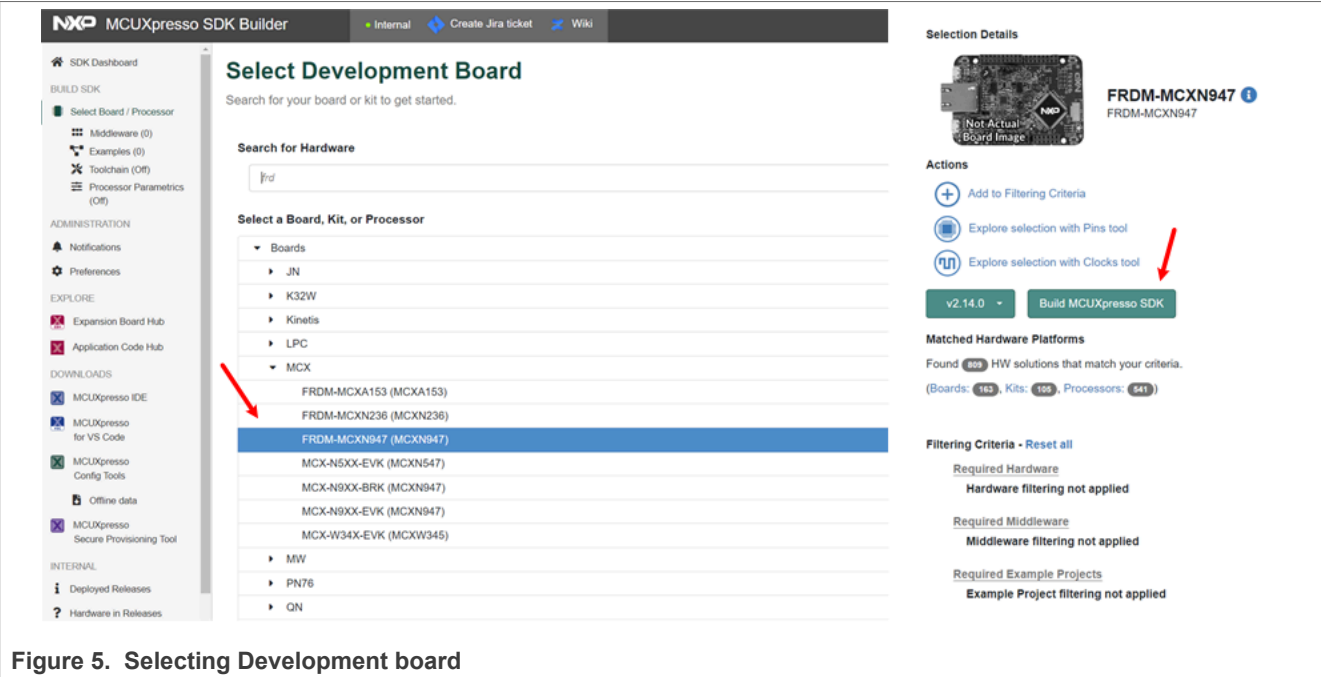

Figure 5. Selecting Development board
3. To install the required SDK, select FRDM-MCXN947 in MCUxpresso SDK Builder as shown in Figure 5.